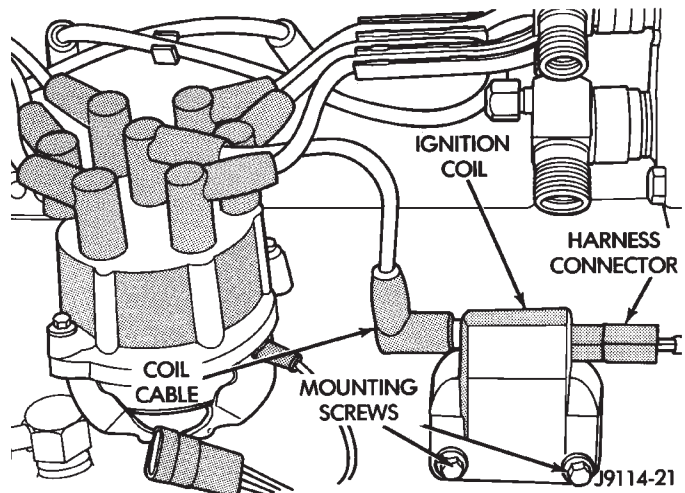

Fig. 23 Ignition Coil—4.0L Engine
The ignition coil is mounted to the right side of the 4.0L engine block next to the distributor (Fig. 23).
(1) Disconnect the ignition coil secondary cable from ignition coil (Fig. 23).
(2) Disconnect engine harness connector from ignition coil.
(3) Remove ignition coil mounting screws. Remove coil.